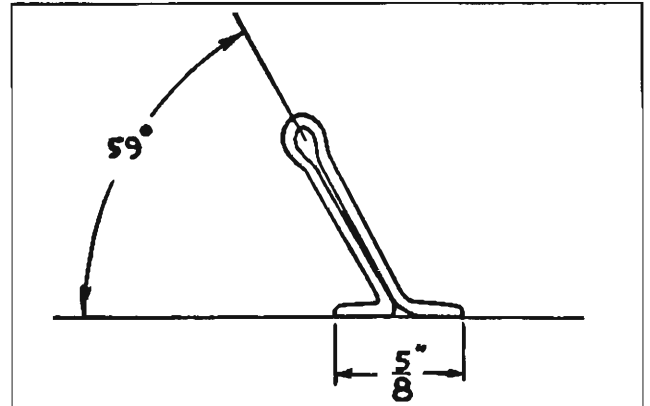

Fig. 6-55 Tool for Removing Upper Half of Main Bearing
4. Make a tool for removing upper half of bearing shell as shown in Fig. 6-55; J-8080 can also be used.